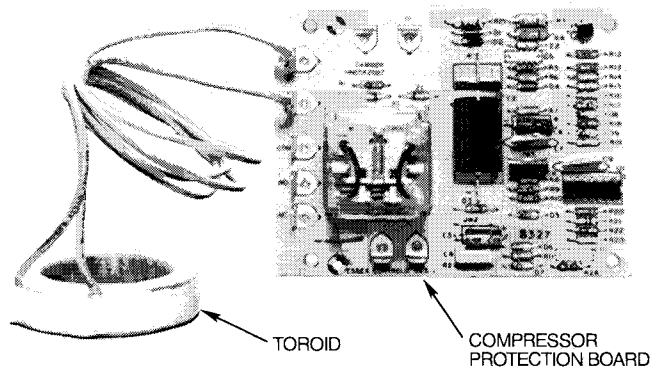

Fig. 11 - Compressor Protection Control System Module
Compressor Protection Control System (CPCS) or Control Relay (CR) — Each compressor has its own CPCS module or CR. See Fig. 11. The CPCS or CR is used to control and protect the compressors and crankcase heaters. The CPCS and CR provide the following functions: